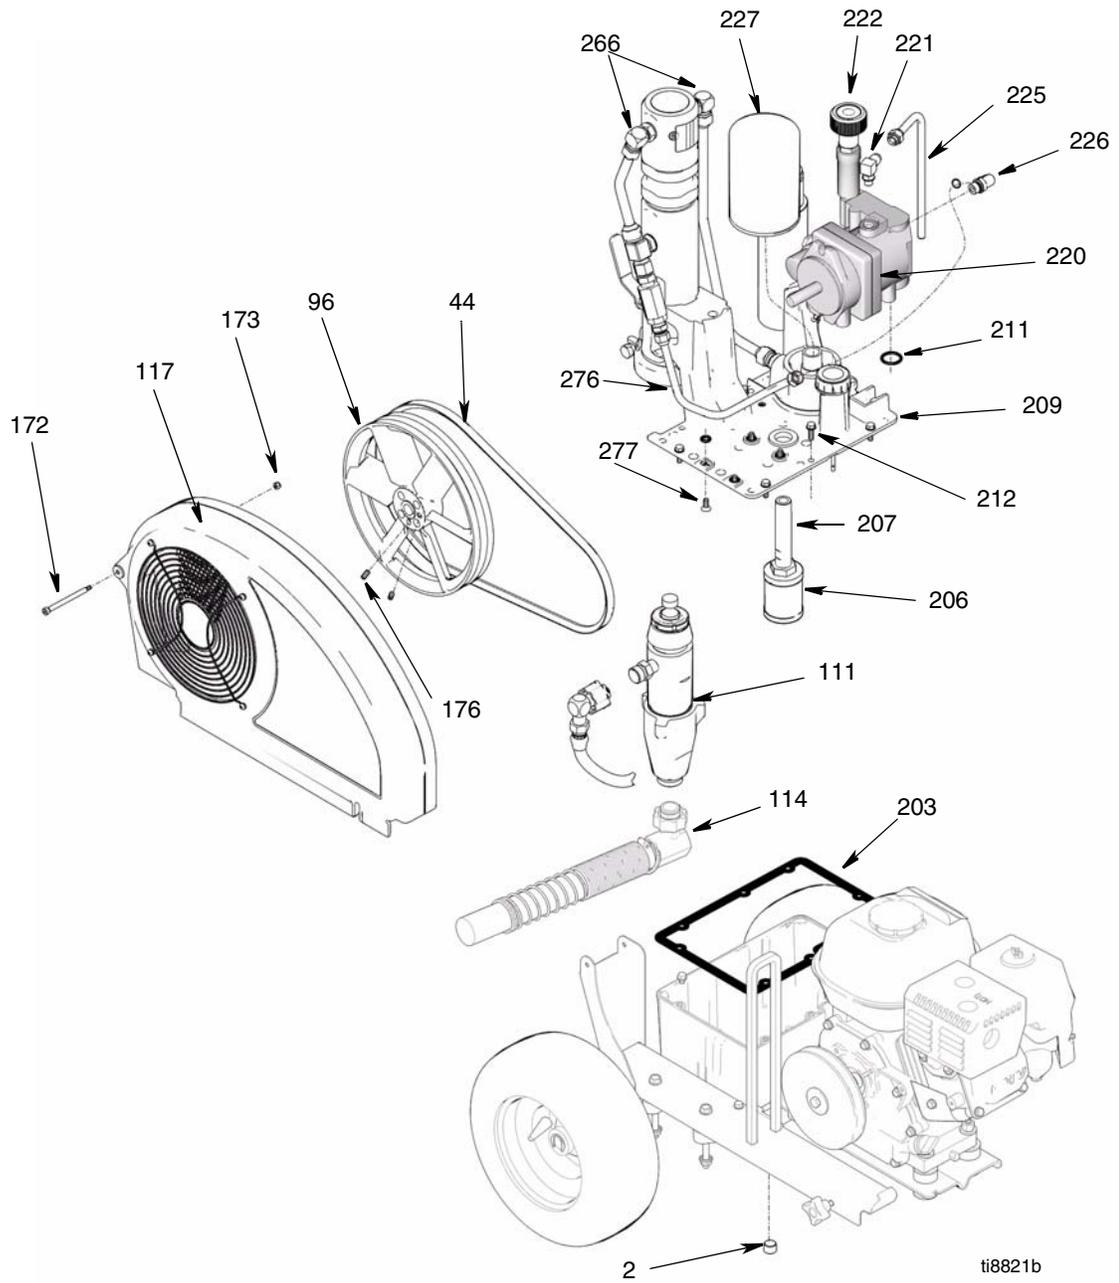

FIG. 2
(Figure 2)
3. Remove drain plug (2) and oil filter (227) and allow hydraulic oil to drain.
4. Fig. 2. Disconnect suction tube (114).
5. Disconnect pump (111), page 15.
6. Remove screw (172), nut (173) and belt guard (117).
7. Raise motor and remove belt (44).
8. Remove two set screws (176) and fan pulley (96).
9. Remove case drain tube (225).
10. Remove elbow (221).
11. Remove tube (276) from elbow (226). Remove elbow (226) from hydraulic pump (220).
12. Remove eight screws (212) reservoir cover (209) filter assembly (206) and gasket (203).
13. Remove four screws (277) and hydraulic pump (220) from reservoir cover (209).
1. Install hydraulic pump (220) to reservoir cover (209) with four screws (277); torque 90-110 in-lb (10.1-12.4 N·m).
2. Install gasket (203) and reservoir cover (209) with eight screws (212); torque 110+/-5 in-lb (12.4 +/- 0.5 N·m).
3. Install elbow (226) in hydraulic pump (220). Install elbow (226) in tube (276). Torque to 25 ft-lb (33.9 N·m).
4. Install elbow (221); torque to 15 ft-lb (20.3 N·m).
5. Install case drain tube (225); torque to 15 ft-lb (20.3 N·m).
6. Install fan pulley (96) with two set screws (176).
7. Raise motor and install belt (44).
8. Install belt guard (117) with screw (172) and nut (173).
9. Connect pump (111), page 15.
10. Fig. 2. Connect suction tube (114).
11. Install drain plug (2); torque to 110 in-lb (12.4 N·m). Install oil filter (227); tighten 3/4 turn after gasket contacts base. Fill hydraulic pump with Graco hydraulic oil, page 6, through elbow (221) port until full. Fill reservoir with remaining hydraulic oil.